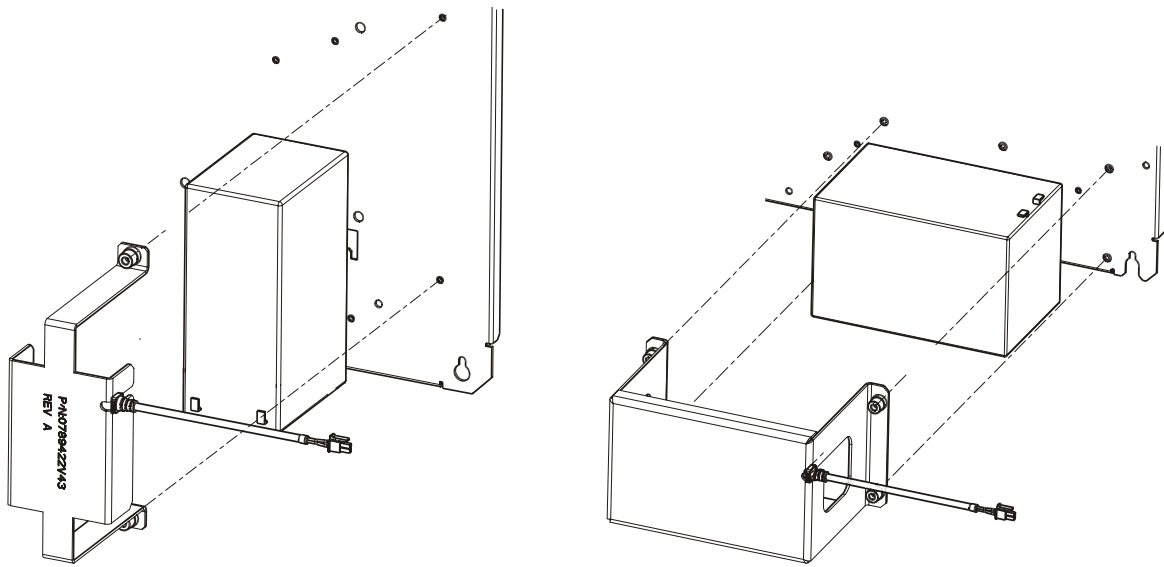

Figure 3-3 Backup Batteries – Exploded View
- 2) Unscrew the battery holders (two screws in the small battery and four screws in the large battery) with the attached battery temperature sensor. (See Figure 3-3 below.)